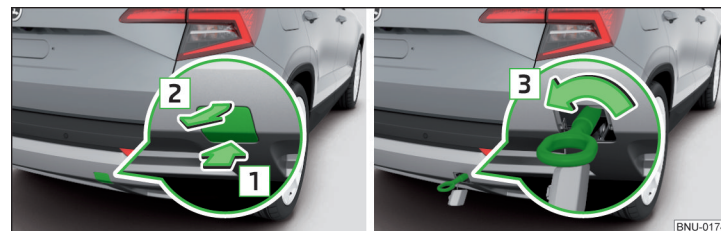

Fig. 329 Remove cap / install towing eye
- › To **remove**, press down on the cap in the direction of arrow **1** and remove it in the direction of arrow **2** » Fig. 329.
- › To **install**, screw in the towing eye by hand in the direction of arrow **3** » Fig. 329 until the stop » **!**